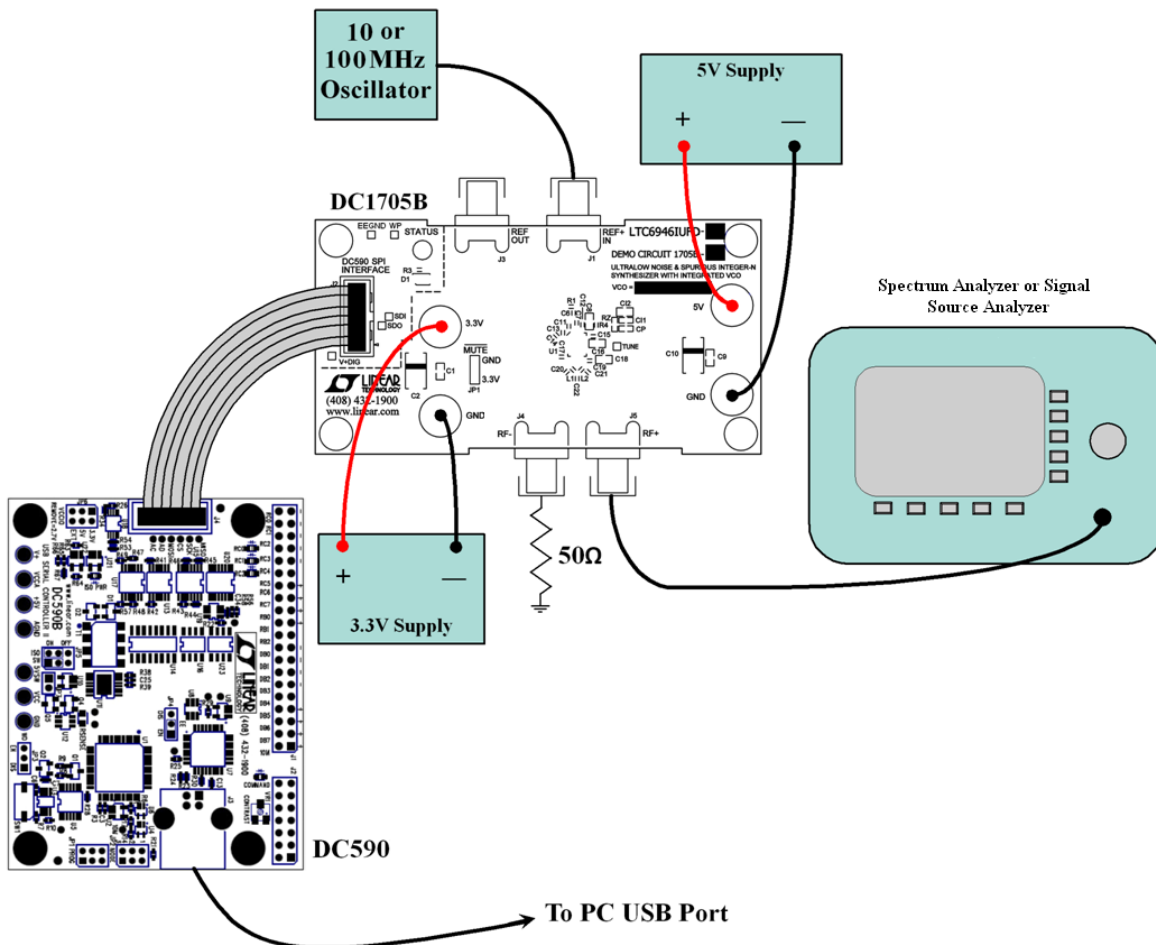

Figure 1. Proper Measurement Equipment Setup
1. Connect an appropriate reference frequency source (at J1) and signal analyzers (at J4 and/or J5) using the SMA connectors (see Figure 1 and the Typical DC1705B Requirements and Characteristics table).
3. Connect the GND, 3.3V and 5V banana jacks to a power supply and apply power (see Figure 1 and the Typical DC1705B Requirements and Characteristics table).